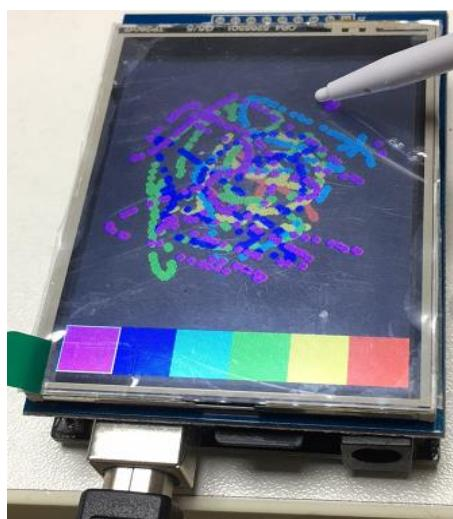

Figure 17
(2) - (4) Same as 3.2.1, In Figure 17 is the result.